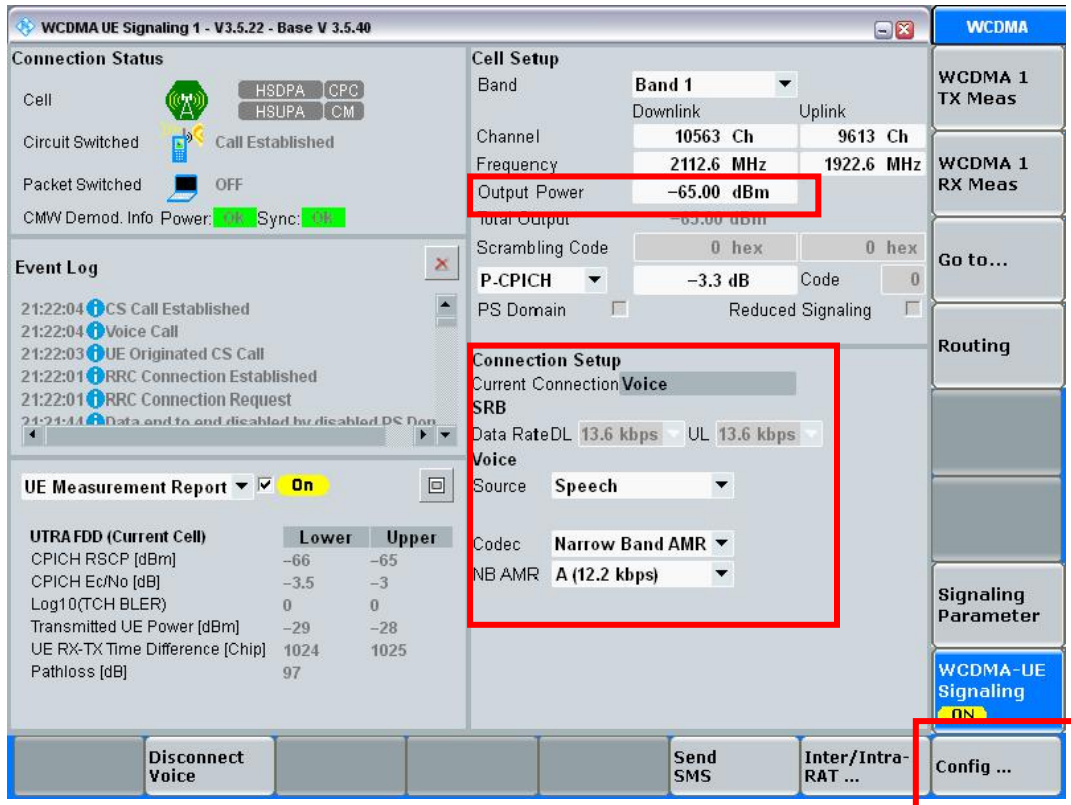

Figure 35: Main WCDMA Settings
1. In the main settings screen, set the **RS EPRE Power** between **-60 dBm to -70 dBm** (see Figure 35: Main WCDMA Settings).
2. Select **Config...** for the advanced settings (Figure 35: Main WCDMA Settings).